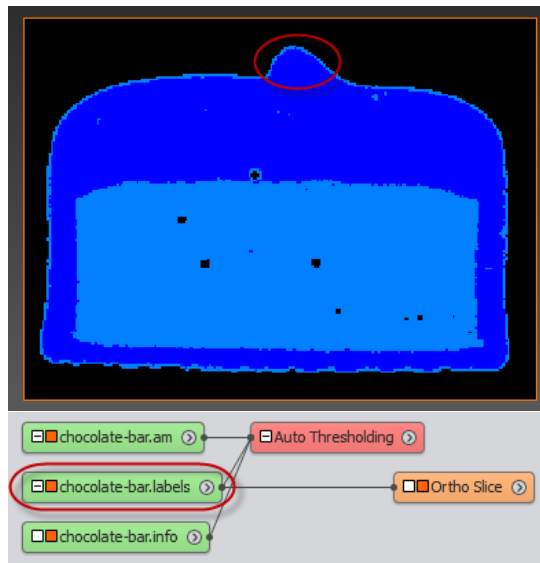
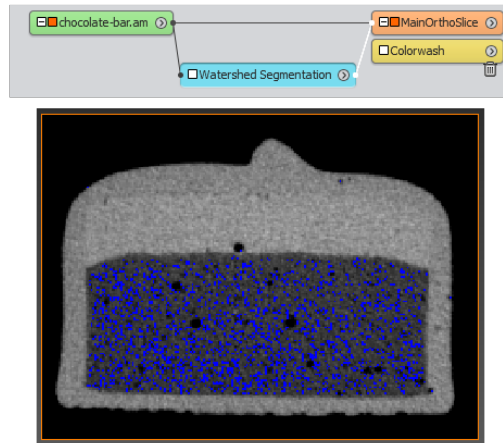

Figure 4.71: Automatically segmenting the image with *Auto Thresholding*.
Figure 4.78: The *Watershed Segmentation* wizard at step 5.
A mousse layer (light blue) seems to surround the chocolate topping (dark blue): the mousse between the exterior and the chocolate is actually an artifact due to partial volume effect (see Figure 4.71 and
- You can use 629-674 as range here. Again, the goal is to mark inner areas of the given material. (see Figure 4.78). If you select a lesser lower range, areas between the air and the chocolate will be selected, and it will result in the same artifact than the one introduced in Figure 4.71.